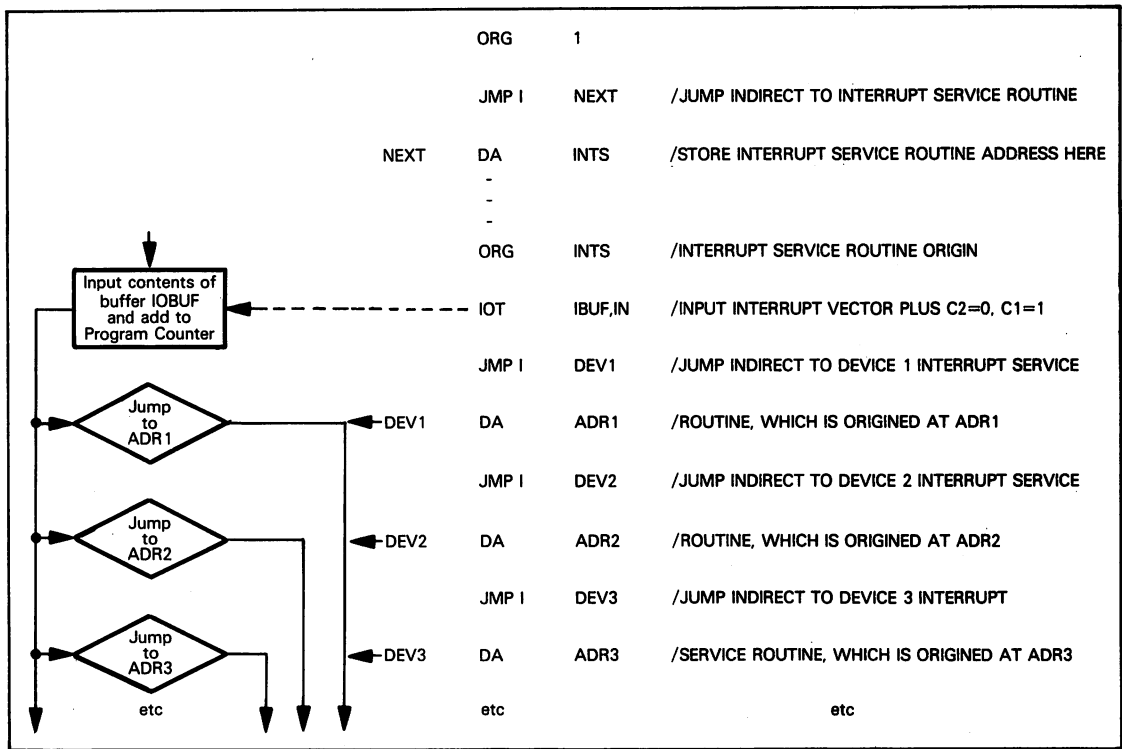

Figure 13-23. Logic and Instruction Sequence for an IM6100 Vectored Interrupt Acknowledge
**You can implement a vectored interrupt acknowledge using daisy chain logic, as illustrated for the 8048 microcomputer in Chapter 6.** Consider Figure 6-14. Eight separate interrupt acknowledge signals are generated together with a three-bit code identifying the acknowledged device — which is the highest priority device requesting an interrupt. This three-bit code could be held in a 12-bit buffer, which the CPU reads as an I/O port. If logic associated with this I/O port, upon being accessed, inputs control signals C2 low and C1 high, then the three-bit code (shifted left appropriately to meet the needs of Branch logic) will be added to the Program Counter. This implements a program relative jump, and then a vectored branch. **Figure 13-23 illustrates an appropriate instruction sequence.**
Let us examine Figure 13-23.
**The preferred method of handling multiple interrupts in an IM6100 microcomputer system is to use the IM6102 MEDIC, together with IM6101 PIE devices.** These devices automatically implement daisy-chain interrupt priorities with vectored interrupt logic. That is to say, you obtain the same result illustrated in Figure 13-23, but without any of the complexities associated with special logic of the type illustrated in Figure 6-14.